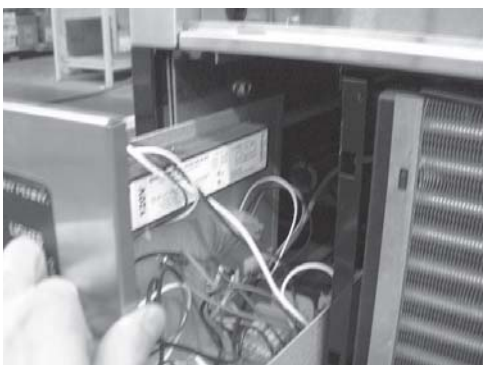

Figure 2-3
5. Pull the control panel out from unit and locate the mounting hole in the left, rear corner. Secure corner with one of the screws from step 1. Figure 2-3.